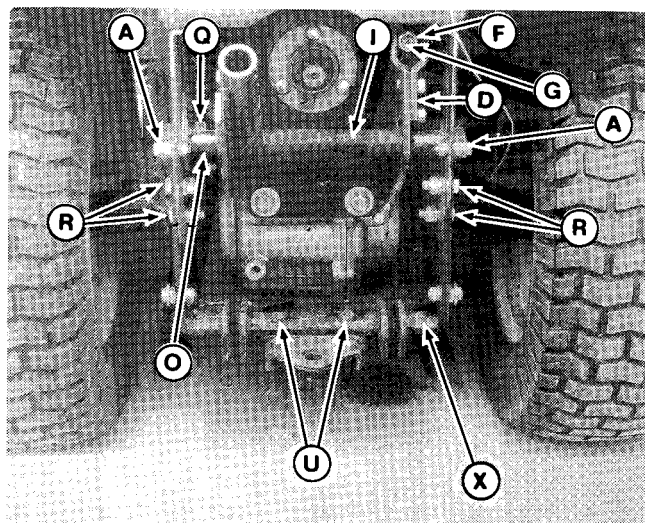
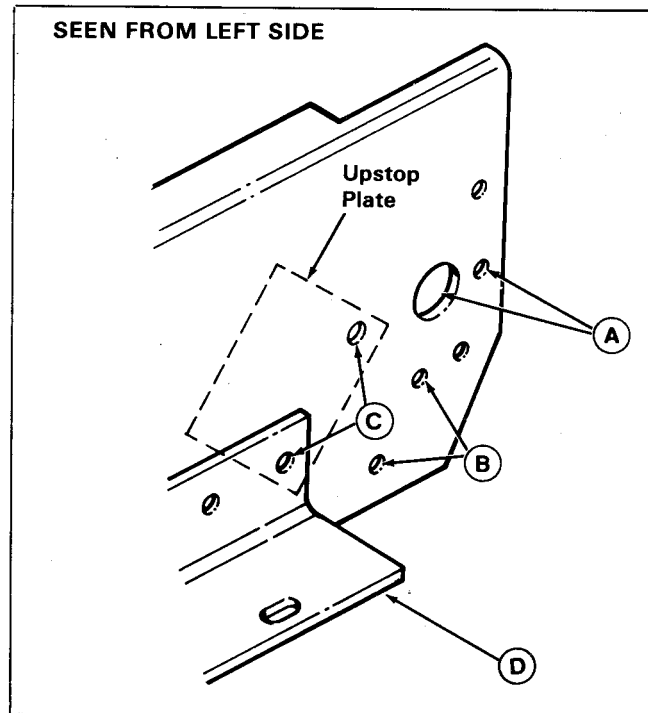

Figure 6.
Figure 7.
- b. Install the plate in mounting holes (C, figure 7) shown. Use 7/16-14 x 1-1/2" screw at front hole and 7/16-14 x 1-1/4" screw (from transmission support) at rear hole. Install lockwashers and nuts.
4. Insert the lift shaft (I, figure 6) into position, place bearing (A) on to each end, and secure with capscrew, lockwasher and nut each side.
5. Position the rear trunnion (F) onto the lift rod (G) attaching the lift arm (D) with two 3/8-16 x 1" capscrews, 3/8" lockwashers and 3/8" nuts. Install centerlock nut (E) on end of lift rod.
6. Position the hitch (X) as shown in figure 6 and install two 7/16-14 x 1-1/4" capscrews (R), 7/16" lockwasher and 7/16" nuts each side. See mounting holes (B, figure 7).